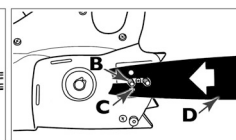

Fig. 3B
3. Place the slotted end of the guide bar over the bar bolts so the Tang (B) fits into the lower hole (C) in the guide bar (D). (See Fig. 3B)
3. Screw (C) the tension plate (D) on the bar. (Fig. 3B)
2. Holding the nose of the bar up, use the screwdriver or wrench if provided in your User's Kit to turn the guide bar adjustment screw (F) (Fig. 3B) clockwise to tighten the chain. Turning the screw COUNTERCLOCKWISE LOOSENS THE CHAIN on the guide bar.